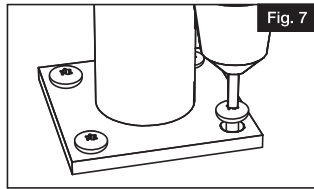

Fig. 7
- Tighten concrete structural post screws once the structural post mount is level (Fig. 7). If the shim was used, cut off the excess portion.